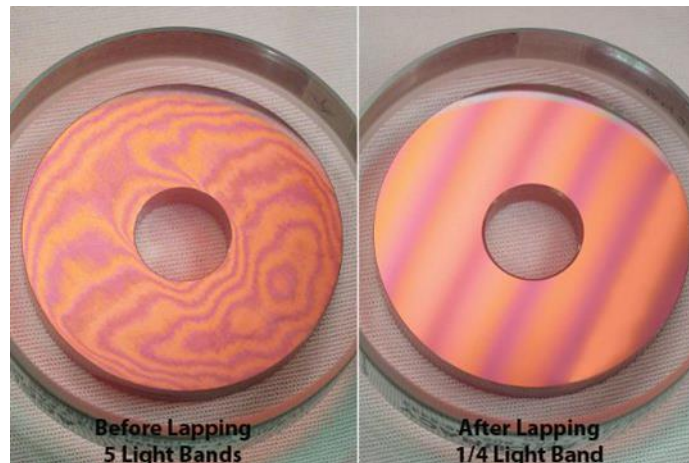

Figure 2[a]
2. [a] Figure 2[a] shows the fringe patterns formed on a hard disk substrate when viewed under an optical flat with the aid of sodium light. The figure on the left shows the pattern formed on the surface before lapping, while that on the right shows the pattern after lapping. What can you infer from the two patterns?
- [b] Figure 2[b] shows the fringes observed on a test surface observed under an optical flat with the aid of sodium light ($\lambda = 0.585 \mu\text{m}$). Draw the cross-sectional profiles along sections A-A and B-B to show the profile of the surface. Hence, determine the height difference between the highest point and lowest point along each section.